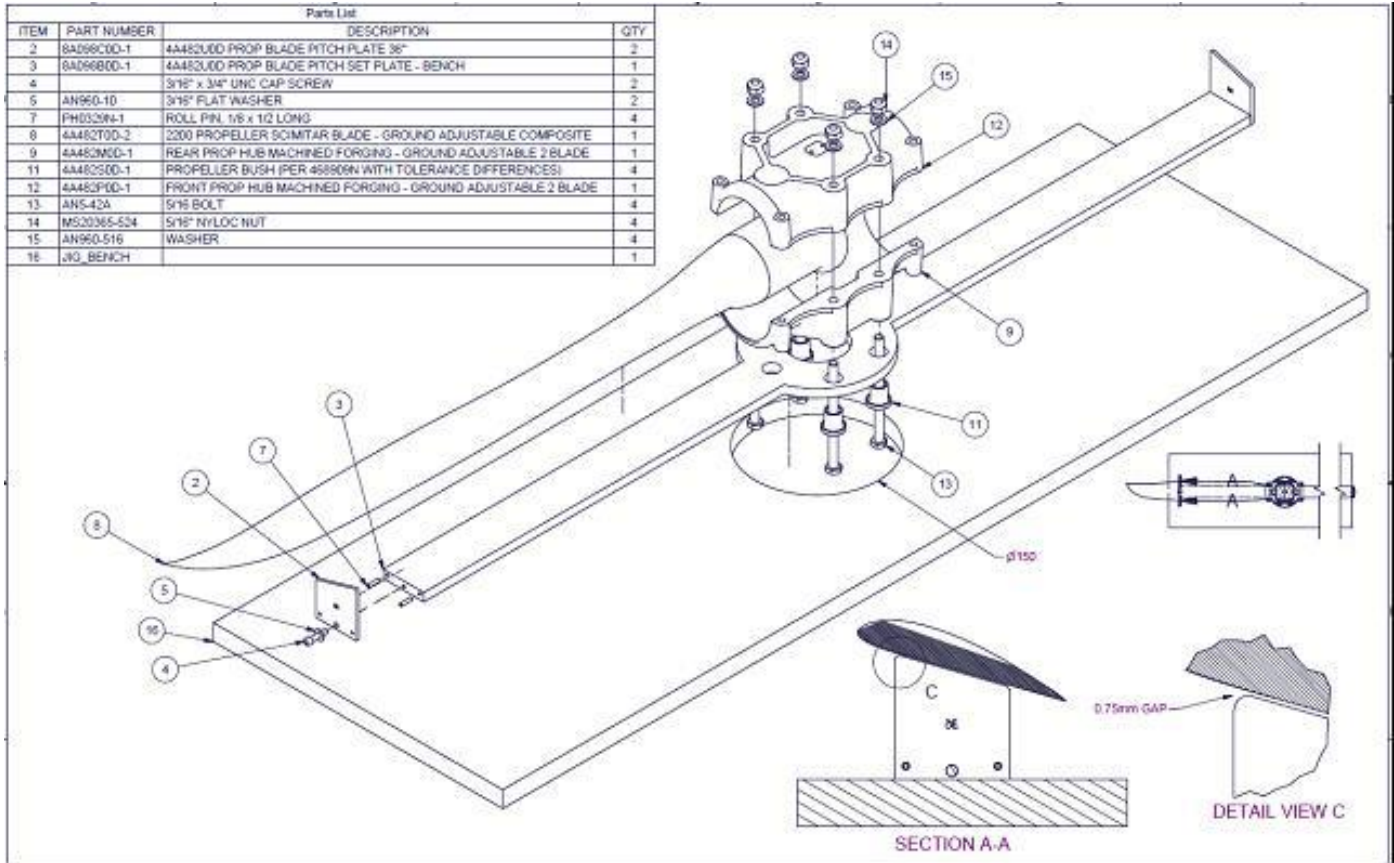

Figure 8 – Pitch Set Jig
The following procedure is the recommended method used to set the blade pitch of propellers not equipped with pitch lock pins. The setting Jig is shown in Figure 8.
- Place the pitch setting jig on a flat, level surface. A special bench such as that shown in Figure 8 allows the assembly to sit level and the operator to adjust the 5/16" bolts without lifting it.